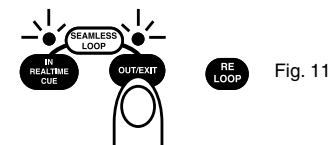

Fig. 11
- 3) When you reach the point of your desired new loop ending point (Fig.11). This set your new loop ending point into memory.